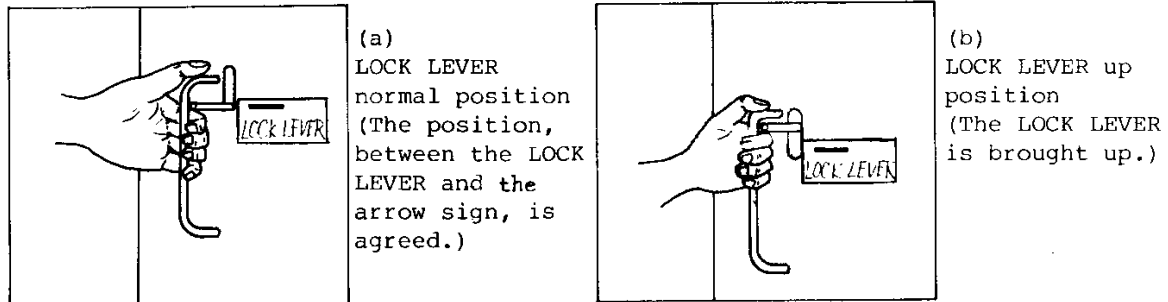

Fig. 8 LOCK LEVER HANDLING
In this section, the installation of the VACUUM CIRCUIT BREAKER to DRAW-OUT UNIT of switchgear cubicle, are explained. Fig. 8(a), (b) are shown as the LOCK LEVER handling.
- ① Make sure that the OPEN CLOSED INDICATOR is "OPEN" condition and the SPRING-CHARGE INDICATOR is "WHITE" condition.
- ② It must be set the VACUUM CIRCUIT BREAKER with pushing the HANDLES into the DRAW-OUT UNIT to the position, where the FRONT COVER of the VACUUM CIRCUIT BREAKER agree to the "DISCONNECTED" indicator on the DRAW-OUT UNIT, while the LOCK LEVER is held the "BROUGHT UP" POSITION. And, the VACUUM CIRCUIT BREAKER can be fixed on the "DISCONNECTED" position, if the LOCK LEVER is held down to the "NORMAL" position, agreed the arrow sign. (refer to Fig. 8(a)).